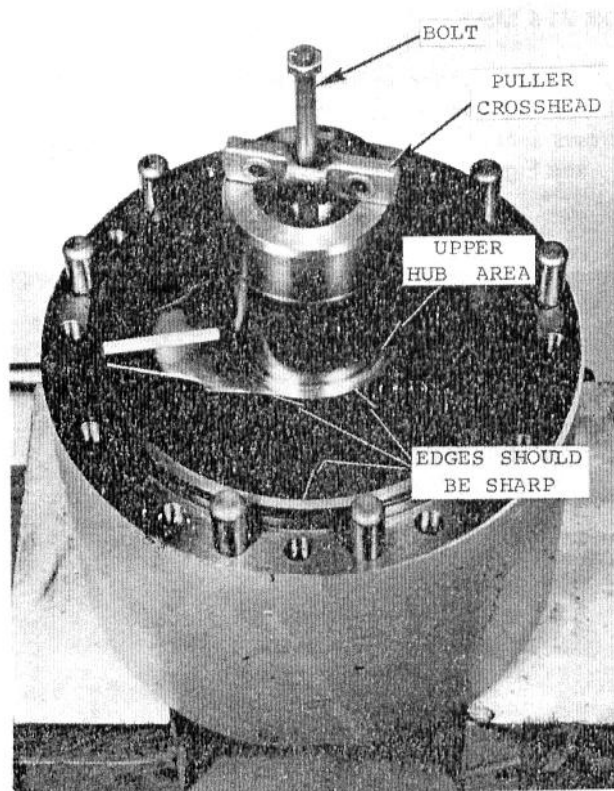

Fig. 52 — Removing/Installing Moving Vane Shaft
6. Use a suitable bolt and puller crosshead, similar to the manner shown in Fig. 52, and carefully remove the vane shaft from the barrel.
2. Inspect the moving vane shaft as follows ... see Figs. 52 and 53: